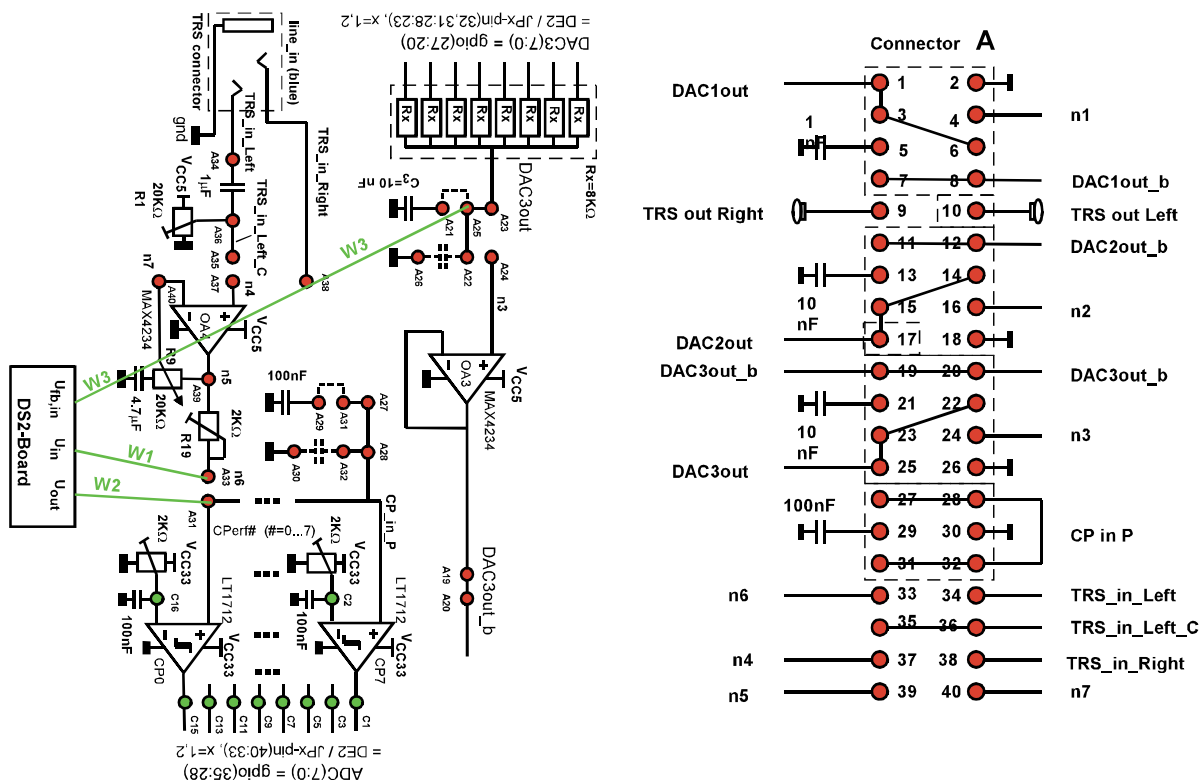

Fig 4.4.2: Schematics and jumper situation
- DSM board: Input voltage $U_{fb,in}$ is connected to ADA-board's DAC3 output by wire $W3$ in Fig. 4.4.2. Do: Confirm that jumper E2-E4 on DSM board is set acc. to Fig. 3.1(d).
The green wires in Fig. 4.4.2 are automatically connected by plugging in the *DSM* board.